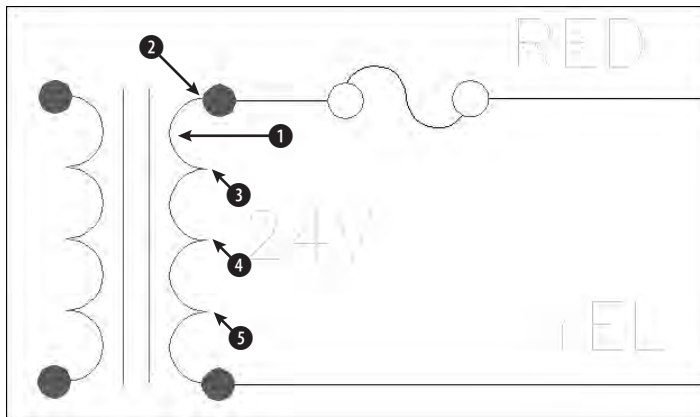

Figure 9-6: Close-up of the transformer
4.  Note that three of the arcs that make up the right side of the transformer are missing. Pick the arc at ❶ in Figure 9-6. Choose Copy Object from the Modify toolbar. Follow the prompts:
Specify base point: *Pick the endpoint at the top of the arc at ❷ (see Figure 9-6).*
Specify second point of displacement or <use first point as displacement>: *Pick the endpoint at the bottom of the first arc at ❸ (see Figure 9-6).*
Specify second point of displacement or <use first point as displacement>: *Pick the endpoint at the bottom of the second arc at ④ (see Figure 9-6).*
Specify second point of displacement or <use first point as displacement>: *Pick the endpoint at the bottom of the third arc at ⑤ (see Figure 9-6).*